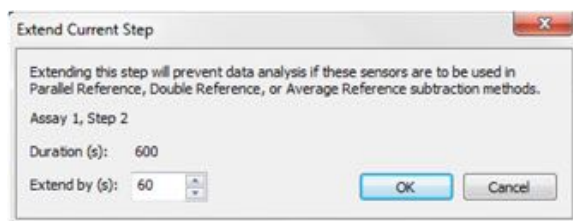

Figure 10-98: *Extend Current Step Dialog Box*
2. In the **Extend Current Step** dialog box (see Figure 10-98), enter the number of seconds to extend the step and click **OK**.